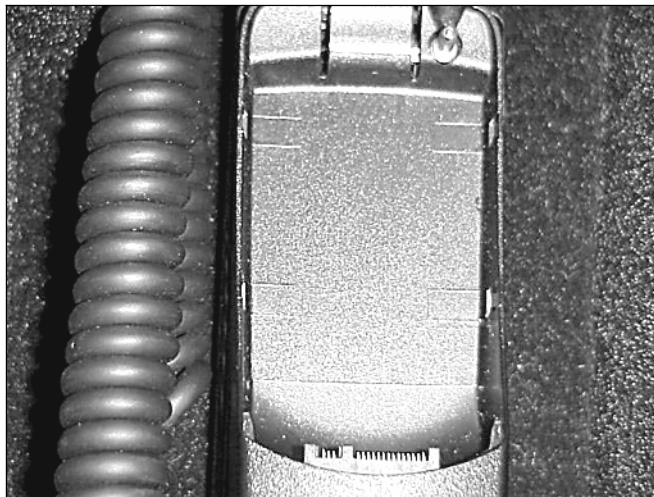

Figure 15
28. Remove the battery insert plate when using the extra capacity battery (1100 mAh) with the telephone (Figure 15).